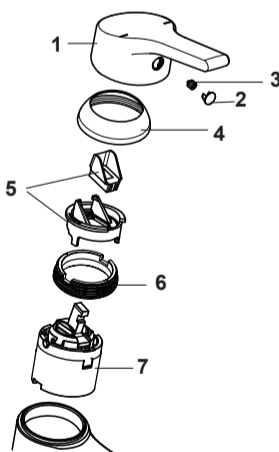

Figure 6 Single lever cartridge assembly B0164
Refer to Figure 6. Lift off block cap (2). Unscrew grub screw (3) and lift off handle Lift off cap (4). Unscrew cartridge retaining nut (6) and lift off the cartridge (7). Replace in reverse order.